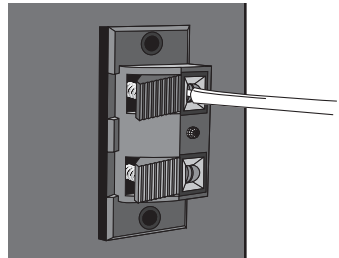

figure 6
4. Release toggle to secure wire in connector (**figure 6**).